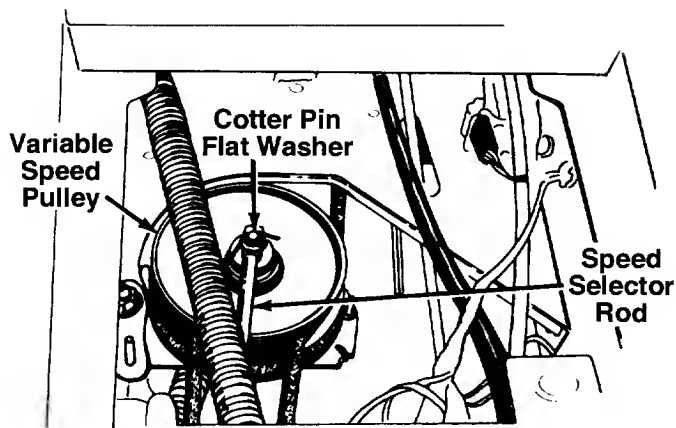

FIGURE 13.
8. Disconnect the speed selector rod from the variable speed pulley by removing the cotter pin and flat washer and lifting rod off the 3/8" pin. See figure 13.